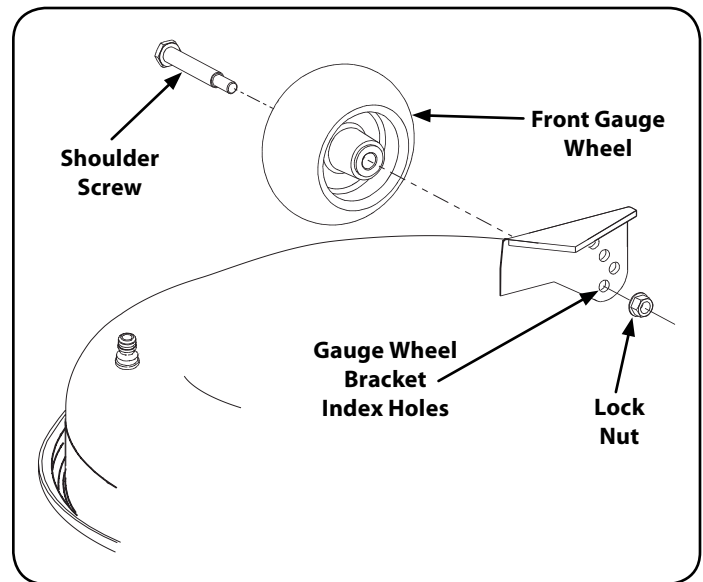

Figure 8
- Remove the lock nut securing one of the front gauge wheel shoulder screws to the deck. Remove the gauge wheel and shoulder screw. See Figure 8.